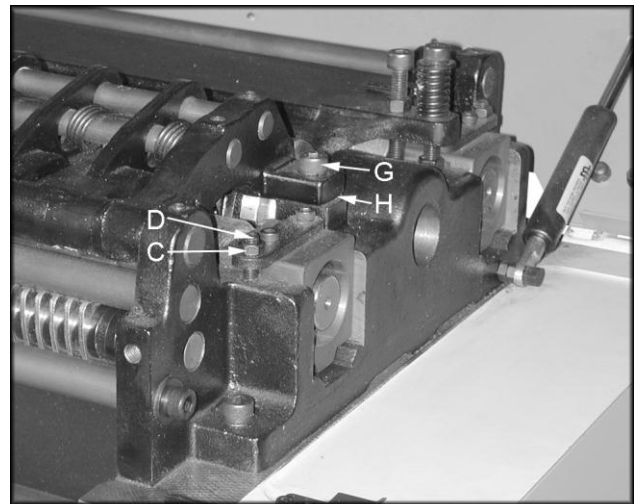
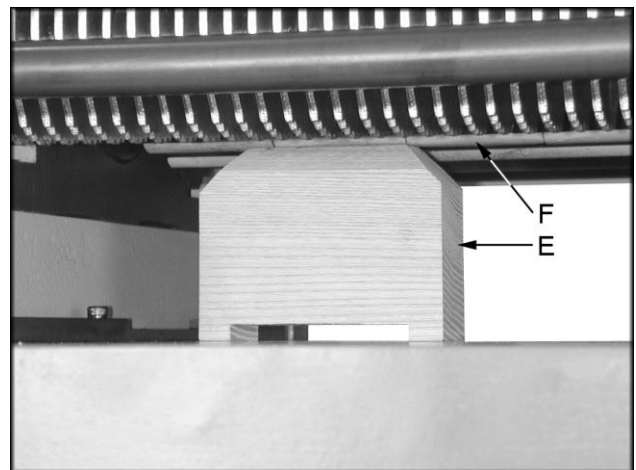

Figure 14
Figure 15
3. Remove feeler gauge and place wood block under the left side of in-feed roller. The top of wood gauge should just contact the in-feed roller. If it doesn't, loosen jam nut (C, Figure 14) and turn the adjusting screw (D, Figure 14) to raise, or lower the in-feed roller until it contacts wood gauge. Repeat for opposite side of the in-feed roller.
3. Remove feeler gauge and place wood gauge (E, Figure 15) under the left side of chipbreaker (F, Figure 15). The top of the wood gauge should just contact the chipbreaker. If it doesn't, remove the socket head cap screw (G, Figure 14) and insert a shim (H, Figure 14) of proper thickness in-between castings until chipbreaker contacts the wood gauge. Repeat for opposite side of the chipbreaker.